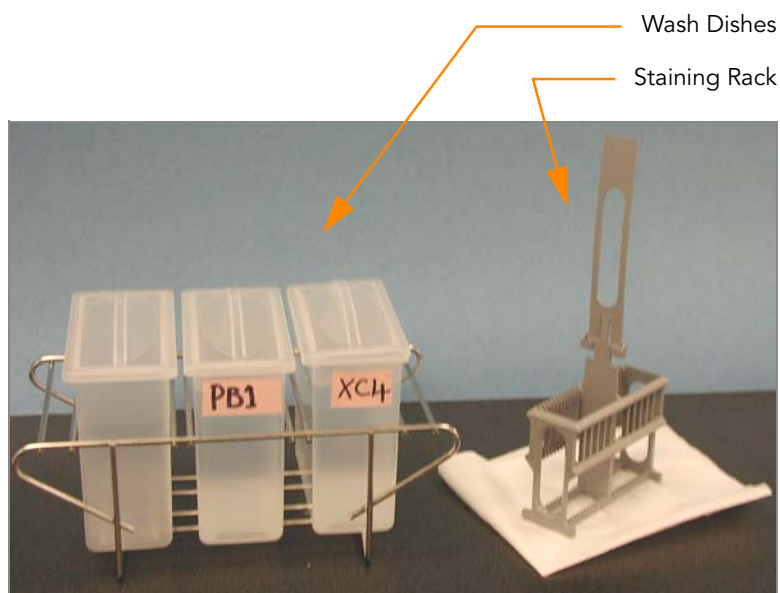

Figure 172 PB1 and XC4 Wash Dishes with Staining Rack
2. Set up two top-loading wash dishes, labeled as shown in Figure 172.